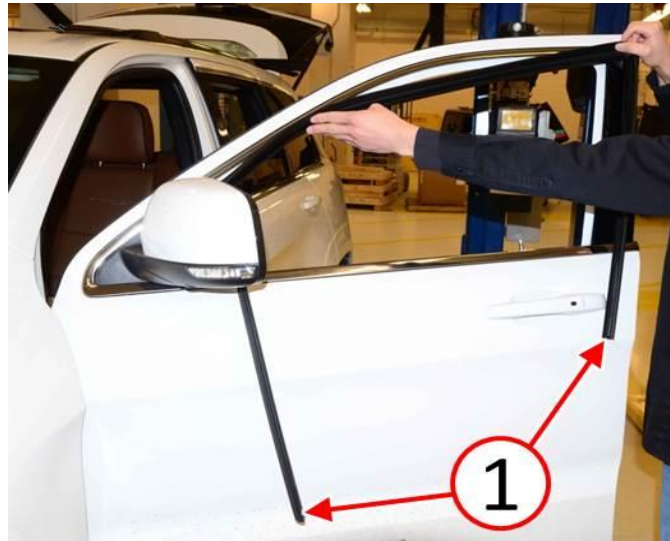

Fig. 6 NEW Door Glass Run Seal
4. Inspect that the correct NEW door glass run seal (1) has been selected for the door. The front leg of the seal (1) will be longer than the rear leg (Fig. 6).